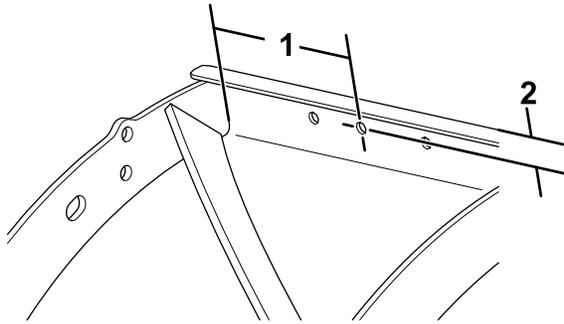

Figure 14
4. On the left side of the plow, drill a hole (7/16 inch) at the location shown in Figure 14.